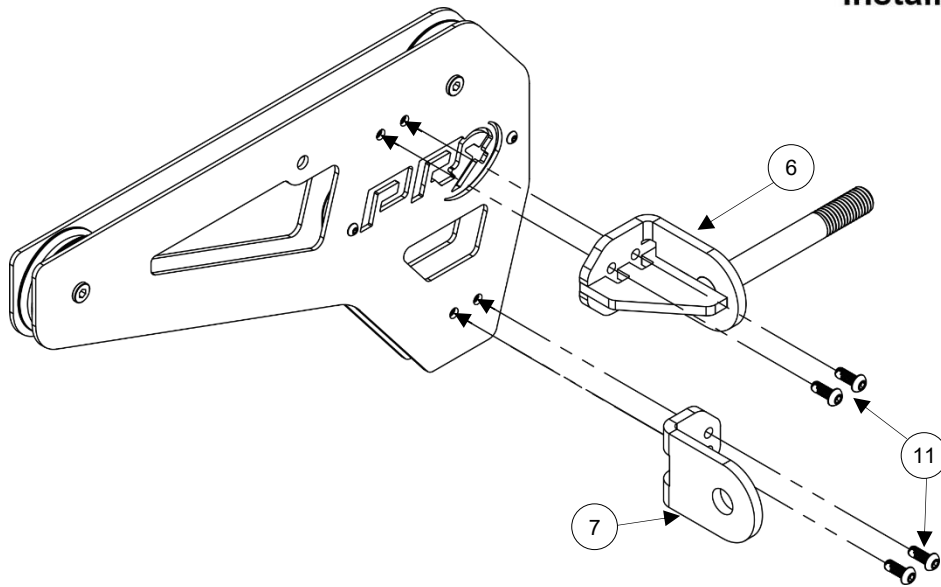

Figure 3: Installing L Brackets (using upper hole sets)
3. Install the Upper L Bracket (6) and the Lower L Bracket (7) using the four 16mm Long M6 Screws (11) that are provided in a bag (**Figure 3**).